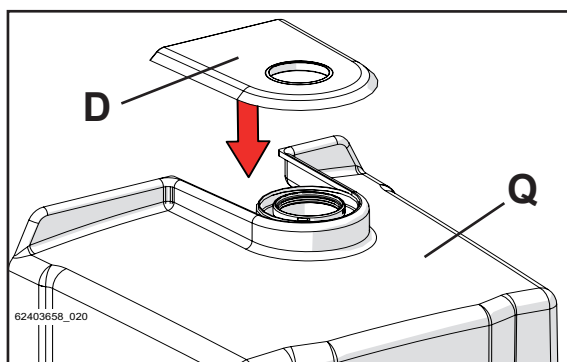

Figure 5-37
- 8 - Apply the rainproof gasket "D" on the cover "Q" as shown in figure 5-37